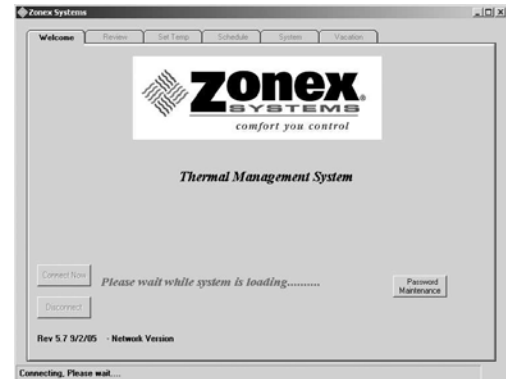
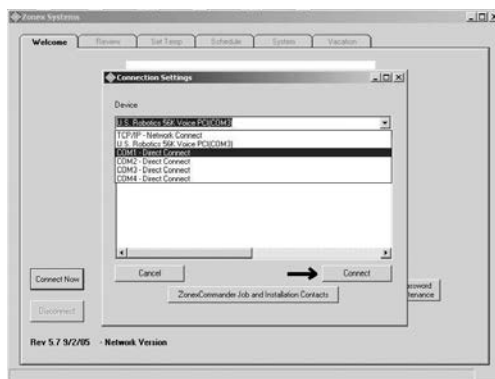

Fig. 8
Fig. 7
4. Click on the **Connect** button (see arrow in Fig. 7). The screen then displays: **Please wait while system is loading** (see Fig. 8). The connection should complete within 30 seconds and is verified when the **Connection Successful** window appears.
2. Verify that the **Connection Settings** window appears (see Fig. 7).